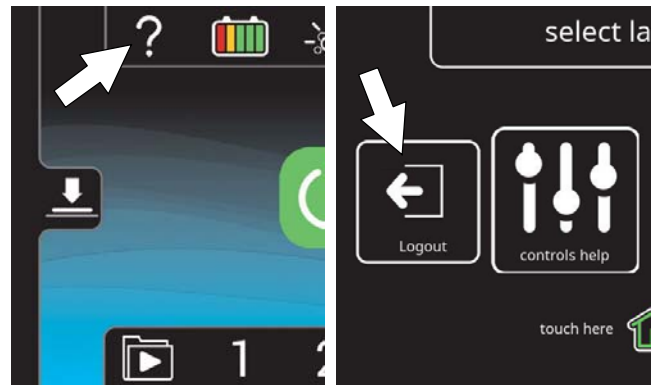

FIG. 174
7. When the user is done operating the machine, it is recommended the user log out by pressing the help button, and then pressing the logout button (Figure 174). Turning the key to the off position is another way to also logout